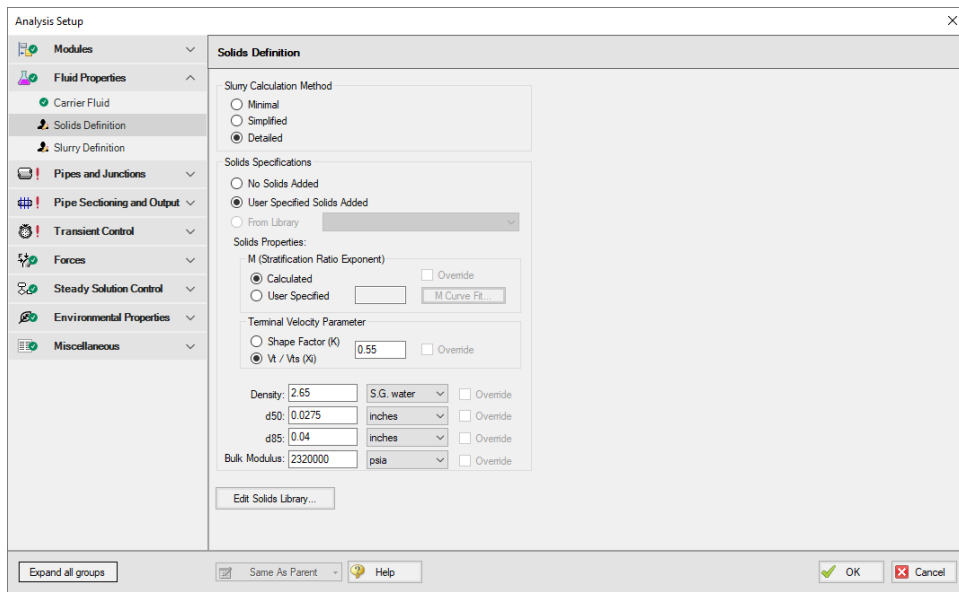

Figure 2: Solids Definition panel
2. Solids Definition panel (Figure 2)